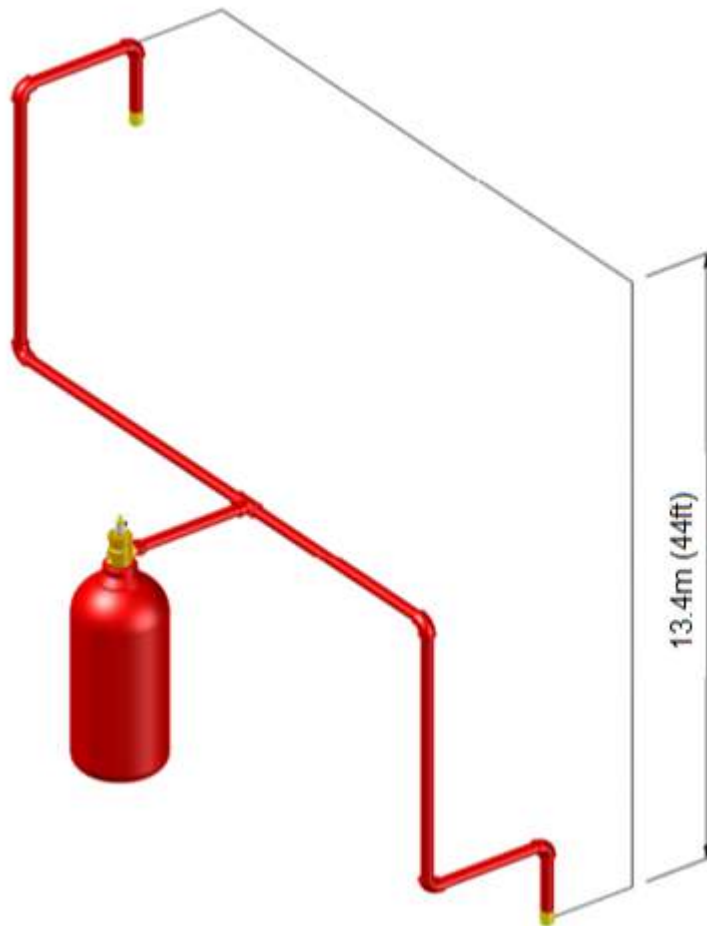

Figure 36 Nozzles Located Above and Below the Cylinder Outlet
- In the event that discharge nozzles located above and below the cylinder outlet, the maximum elevation difference between the farthest horizontal pipe runs or nozzles (whichever is furthest) shall not exceed 13.4 m (44ft). Refer to Figure 36.